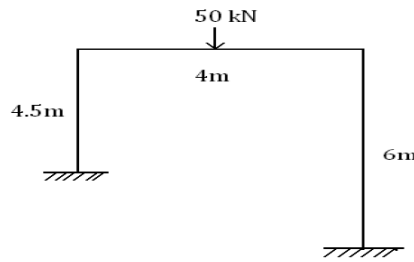

Figure 2
7. Explain fully plastic moment and determine the fully plastic moment required for the frame shown in Figure 2 , if all the members have the same value of  $M_p$ . [12M]